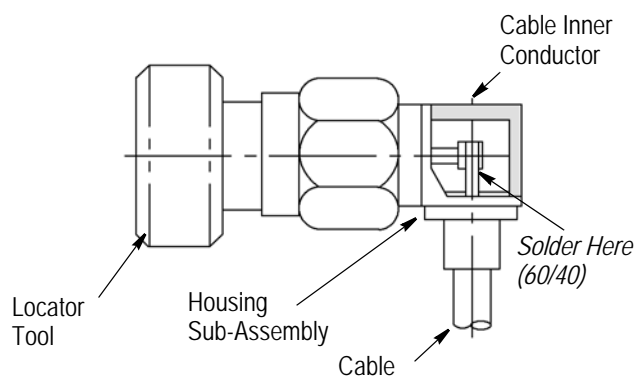

Figure 4
1. Secure locator tool to threads of coupling nut as shown in Figure 4.
4. Place pre-heated soldering iron on tip of contact and solder as shown in Figure 4.